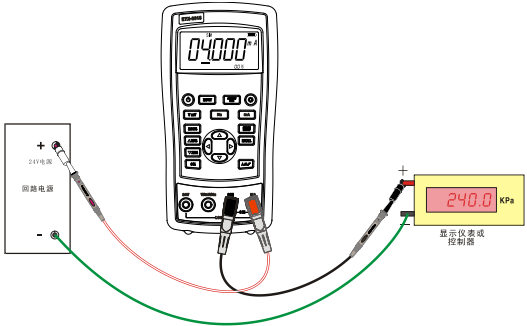

Figure 3.8-1
1. Connect the 24 V loop power source as shown in Figure 3.8-1.